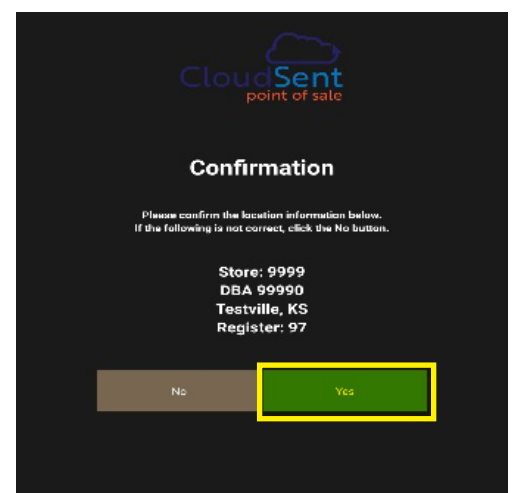

Figure 26
11. Confirmation Screen – select YES button (Figure 26).